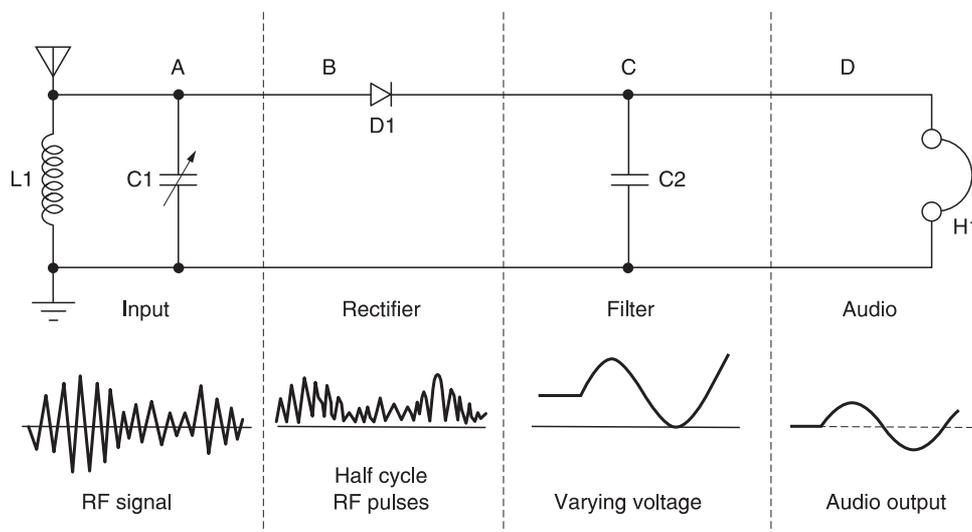
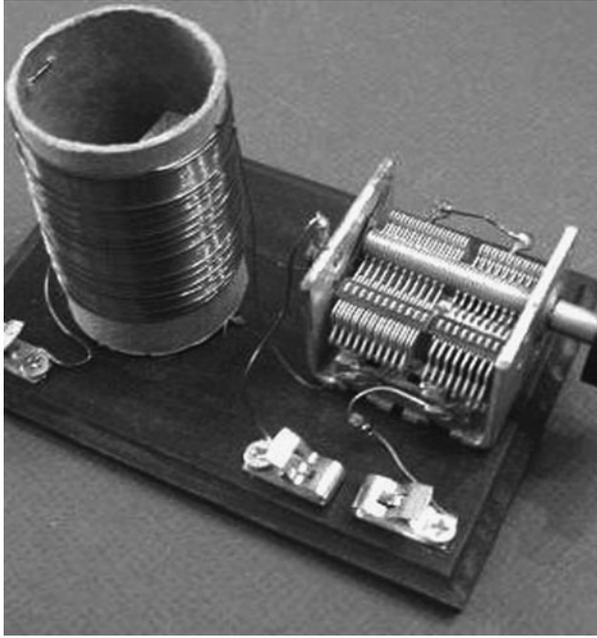

Figure 4-2 Basic crystal radio
Figure 4-3 AM crystal radio
The diagram shown in Figure 4-2 illustrates a basic crystal radio. In its simplest form, a crystal radio is composed of just our main components. A good antenna, a detector, a filter capacitor and pair of headphones. The basic diagram shows the input section at (A), the rectifier section at (B), the filter section at (C) and finally the headphones at section (D).
capacitor is connected in parallel with an inductor and an alternating voltage applied across the combination, alternating current will flow. The amount of current that flows depends upon the frequency of the applied voltage. At a particular frequency, called the resonant frequency, almost no current flows. For frequencies above or below the resonant frequency, significant current will flow. In Figure 4-2, capacitor C1 plus the aerial capacitance forms the capacitor of our tuned circuit, while L1 forms the inductor. At the resonant frequency of the tuned circuit, almost no current flows to earth through L1 or C1, leaving virtually all of it free to flow through the detector. Alternating currents at broadcast frequencies either above or below the resonant frequency will tend to flow through C1 or L1 to earth. Thus we have added selectivity to the receiver. Notice that C1 is adjustable, as signified by the arrow. By varying C1 we can tune the receiver to select specific broadcast frequencies.
Let’s construct a simple crystal radio. In order to build the crystal radio shown in Figure 4-3, you will need to secure some tools and supplies. First you will need to find a clean well lit work bench or table to spread out all your tools, charts, diagrams and components. You will also need to secure a soldering iron, some 60/40 rosin core solder and a small jar of “Tip Tinner,” a soldering iron tip cleaner/dresser, obtainable from your local Radio Shack store. You will also want to locate some small tools such a pair of end-cutters, a pair of needle-nose pliers, a magnifying glass and a set of Phillips and flat-blade screwdrivers for this project. Grab the crystal radio schematic, see Figure 4-2, and the resistor and capacitor identification charts, and place them in front of you, so we can get started building the project. The resistor identification chart in Table 4-1 will help you
As this project will not require a circuit board, we will build the crystal radio on a 6" x 6" x 3/4" wood block base. You can elect to use an additional piece of wood at a right angle to the base as a front panel to secure the tuning capacitor as shown in Figure 4-3.
Next, you will need to locate a plastic or cardboard tube approximately  $3\frac{1}{2}$  to 4" long by 2" in diameter on which to wind your coil. Punch a hole at both ends of the tube about  $\frac{1}{2}$ " from the actual end of the tube. Start winding the coil at one end of the tube using #24 ga. enameled wire, leave about 6" of wire free at the first hole to allow connection to the circuit. Wind the coil with each winding touching the previous winding but not overlapping the prior winding. Wind about 150 turns of wire across the length of the tube. After winding about 150 turns take the free end of the remaining wire and put it through the last punched hole, leave about 6" of wire so you can connect the coil to the circuit. When you are finished winding the coil, you can varnish the coil winding or just spray Krylon around the coil to keep the winding close to the coil, so they won't spread out or come loose. Fasten the coil to a 6" x 6" wood block; you can mount the coil upright as shown in Figure 4-3, or you can lay the coil down near one edge of the wood block and secure it to the block with some brackets or clips. You will have to use a knife and scrape off the enameled insulation of the two coil wires before you can fasten or solder them to the tuning capacitor. Now fasten the tuning capacitor to the wood block near the coil assembly, and wire the coil in parallel with the tuning capacitor. Next locate a germanium diode; make sure you use only a germanium diode and not the more common silicon diode. Remember to observe the correct polarity when connecting the diode in the circuit, the black to white colored band is the cathode lead. The cathode end of the diode points to the headphone in the circuit diagram. The anode side of the diode connects to one end of the "tank" or coil/capacitor and the cathode side of the diode connects to capacitor C2 and one end of the high impedance headphones. The free end of the headphones connects to the remaining end of the capacitor at C2 which connects to the free end of the "tank" circuit. You can connect the headphones via a terminal strip, a Fahnestock clip or headphone jack mounted on the wood block. Crystal radios generally require high impedance headphones, so you must use either a small crystal headphone or a pair of older high impedance (2000) ohm headphones; these are still available through EBAY or from Antique Electronics.